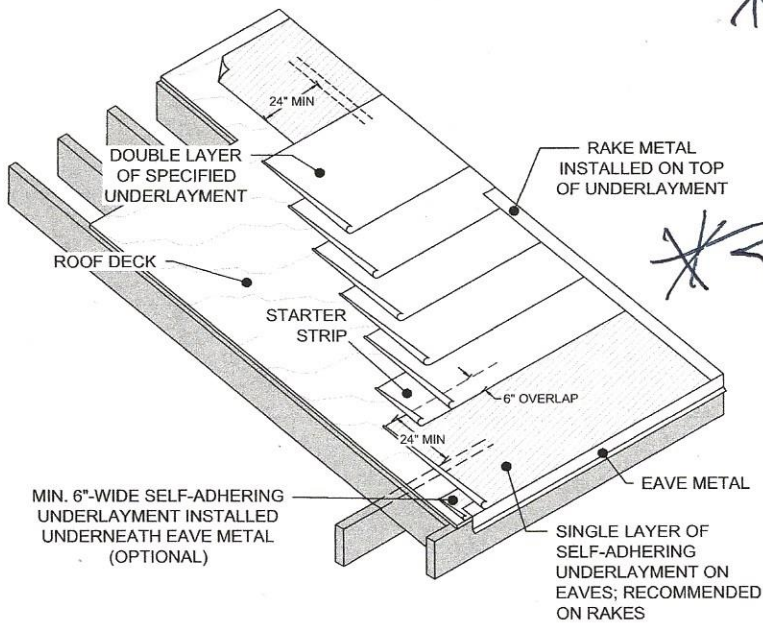
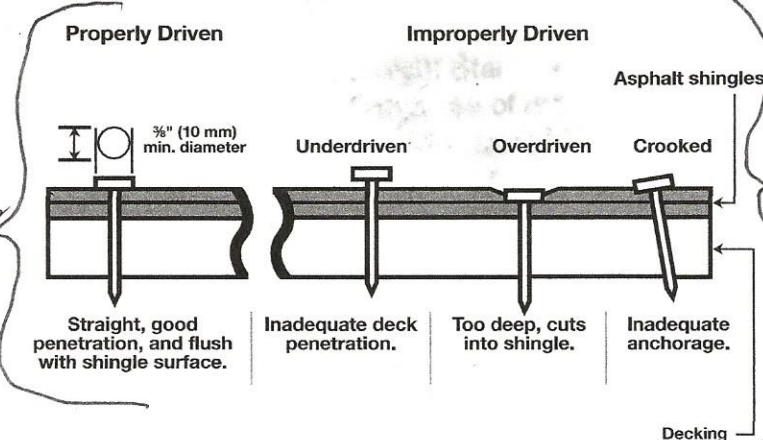

Figure 4 - Application of Self-Adhering and Field Underlayments on Roof Slopes 2:12 Up to 4:12 (Ice Dam Regions)
Figure 5 - Nailing Instructions
- On slopes greater than or equal to 15/12. Please refer to **Section 3.1-D** and see **Figure 4** ;
When cementing shingles, apply a small dab of Asphalt Plastic Cement, the size and thickness of a 25¢ – or a 16 mm (5/8") bead, 1.5 mm (1/16" thick) – located 2.5cm (1") and 30 cm (12") in from each end. Shingles must be pressed firmly into Asphalt Plastic Cement (see **Figure 4**).
On such slopes, use six (6) nails per shingle instead of four. For nailing positions refer to **Section 4** for 3-tabs and **Section 5** for Laminates. See also **Figure 5**. After nailing, apply a small dab of Asphalt Plastic Cement (refer to **Section 3.1-B**). Excess application of Asphalt Plastic Cement can cause blistering. For Laminate shingles, apply Asphalt Plastic Cement 2.5 cm (1") and 30 cm (12") in from each end for a total of four dabs. Shingles must be pressed firmly into Asphalt Plastic Cement (see **Figure 4** and **5**).
Fasten as described above. (See Figure 4)
The use of staples is not an approved fastening method. (See Figure 5)